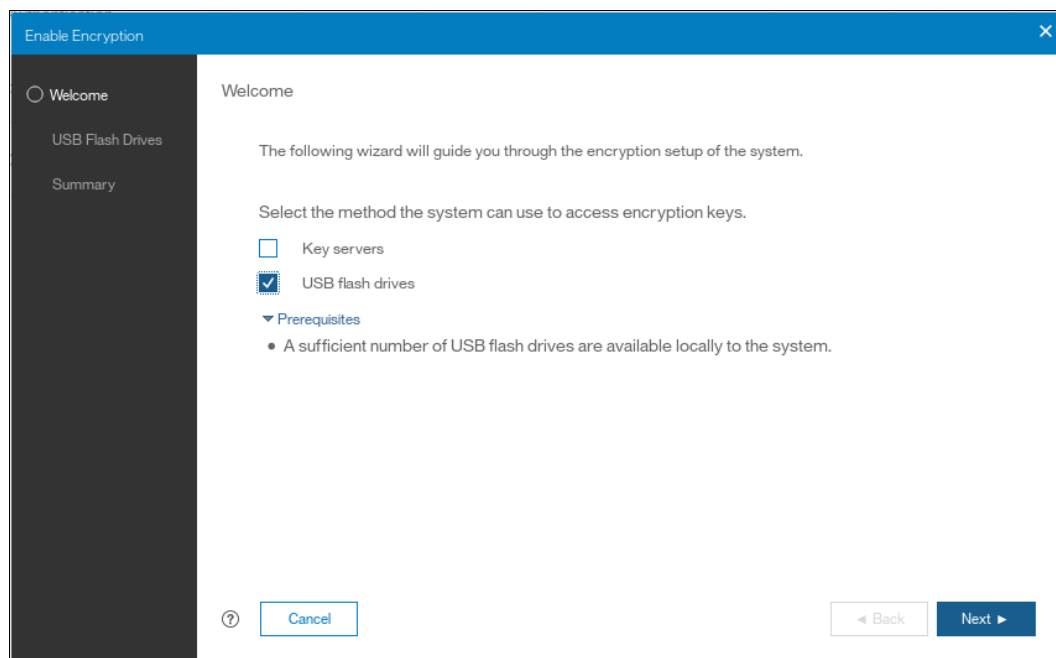

Figure 13-24 Selecting USB flash drives in the Enable Encryption wizard
1. In the Enable Encryption wizard Welcome tab, select **USB flash drives** and click **Next**, as shown in Figure 13-24.